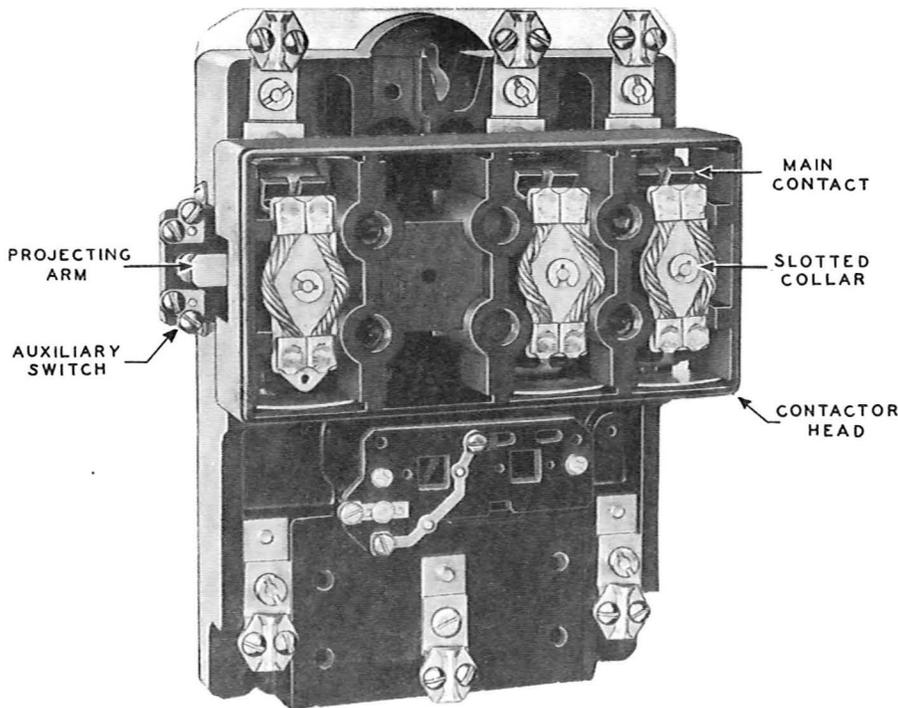

Fig. 8 - Ward Leonard Contactor, K-40818
(6) Access to the main contacts in the type of contactors shown in Fig. 8 can be had by removing one screw from each side of the contactor, thus releasing the head. One screw is located close to the auxiliary switch and the other in a corresponding position on the other side of the contactor.
(7) The movable contacts can be released for replacement by removing the slotted collars. The stationary contacts can be removed with a screwdriver.
(8) The contacts in totally enclosed auxiliary switches are not accessible. If they fail to make reliable contact, or if oil or grease is observed in the mechanism, remove the switch and place it in some convenient vessel containing petroleum spirits until the oil or grease is removed. Operate the switch manually while wet with the spirits to clean the contacts. Allow the switch to become completely dry before replacing it in the circuit.